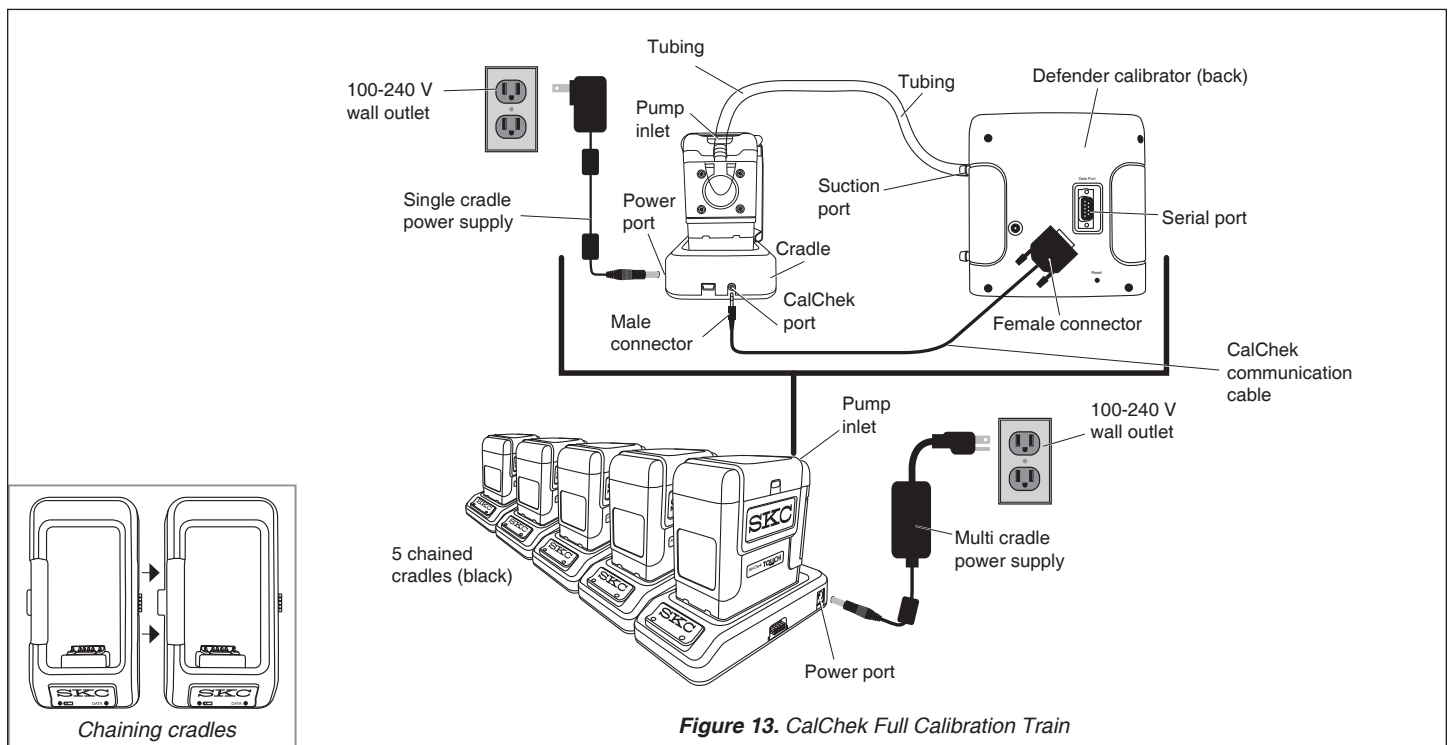

Figure 13. CalChek Full Calibration Train
2. Set up a calibration train (see Figure 13).
4. Ensure calibration train, **without** medium, is in place (see Figure 13). Touch checkmark to accept CalChek selection.